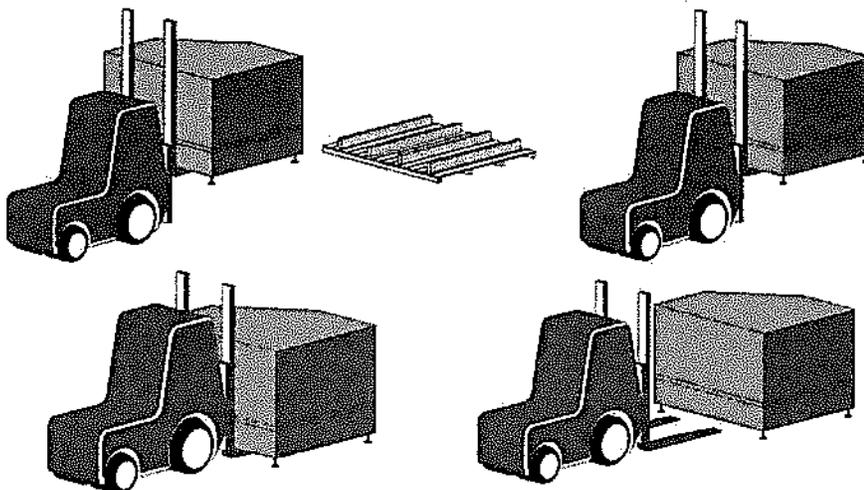

fig.12
- Lift the machine marginally off the pallet and make shure that it rests perfectly steady on the forks of the forklift truck (fig.12). Now lift the machine to a minimum necessary hight for transportation and extract it from the pallet. Port it to its final destination, lower it slowly to the floor and extract the forklift truck from underneath.